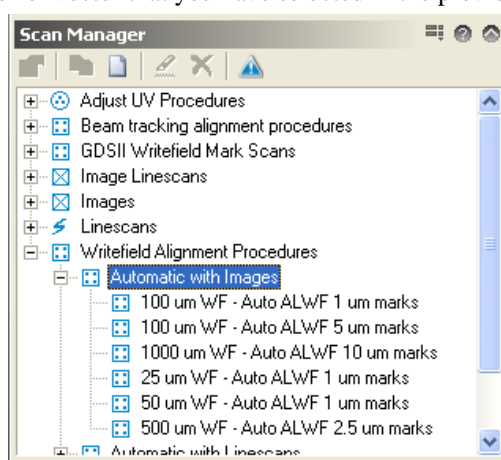

Figure 20: Automatic align-writefield procedures.
9. In the Scan Manager (see figure 20) select 'Writefield Alignment Procedures ->Automatic with Images'. Drag ,100 um WF - Auto ALWF 5 um marks' into the Position list, as well as the ,...1 um marks' one. Execute each in turn by selecting it in the position list and right-click on it + select ,Scan'. This procedure uses an automatic algorithm to determine the error vector that you have selected in the previous Manual procedures.